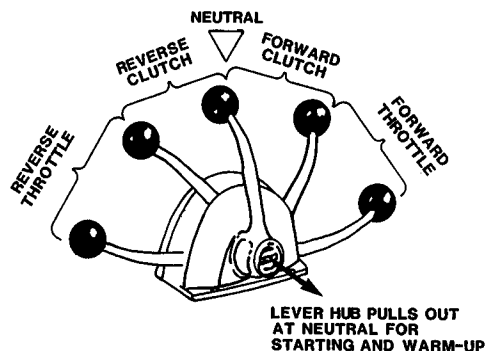

Figure 4-1. Engine Controls
1. Set the throttle clutch control to neutral (figure 4-1).
4-10.3 THROTTLE AND SHIFT CONTROL. Forward movement of the control lever from neutral causes the boat to move forward. Speed is increased as the lever is pushed forward. Astern movement of the control lever from neutral causes the boat to move backward. Reverse speed is increased as the lever is pushed backward. Ensure that the hand lever hub is pushed into operate shift control (figure 4-1). To rev up engine while still tied up, pull hand lever hub out and push lever forward. Returning the lever to neutral causes the hub to automatically snap inward for shift operation.